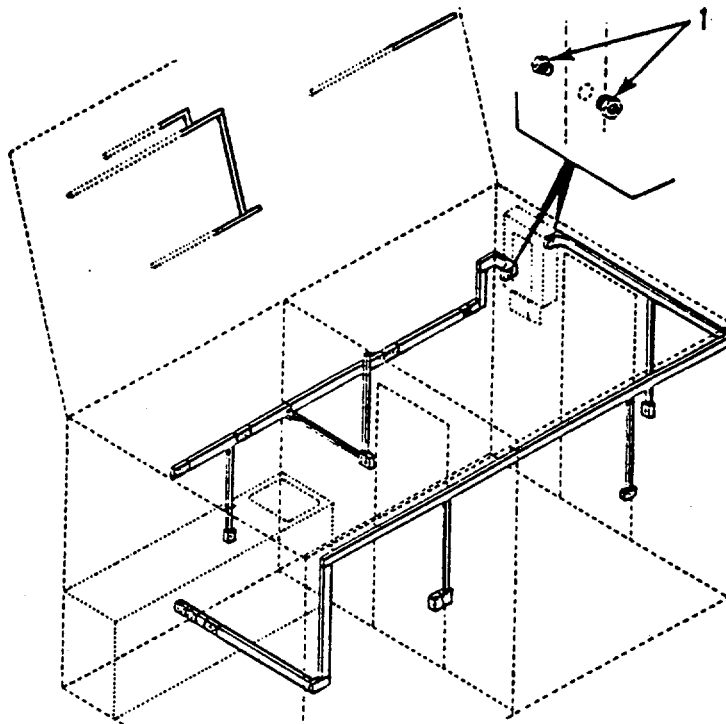

Figure 5-5. Conduit Bushings
a. Inspect. (See Figure 5-5.)
- (1) Inspect conduit channels, channel covers and clips on shelter walls and ceiling for bends, breaks and sharp edges.
- (2) Inspect conduit channels, channel covers and clips for corrosion and security of installation.
(a) Remove conduit bushings (1, Figure 5-5.)
(i) Install receptacle clips (1, Figure 5-7), cover (2, Figure 5-6), clips (1) and bushing (1, Figure 5-5).